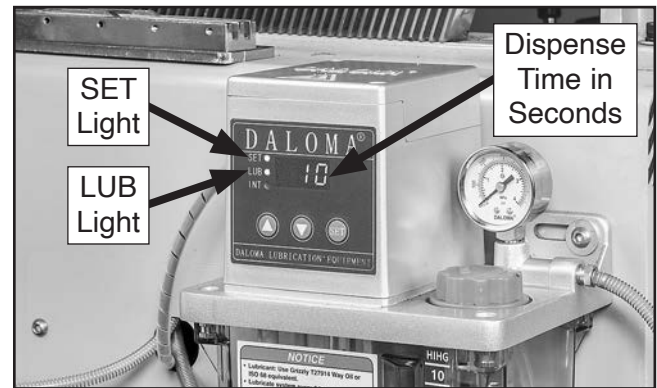

Figure 136. Setting oiler dispense time.
3. Verify SET and LUB status lights illuminate and oil dispense time (in seconds) is displayed on digital readout (see **Figure 136**). Set desired values using ▲ and ▼ buttons on oiler system control panel.